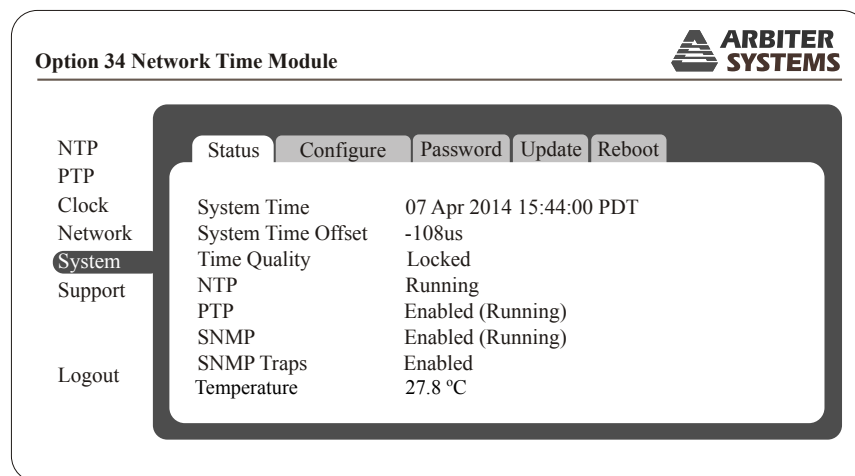

Figure C.31: Startup Page
5. Click the Login button. If you typed in the correct Username and Password, the web interface should appear as shown in Figure C.31.
When logging in to the Option 34 using the web interface, the opening screen should be the System Status information page. This provides an overview of the operation of the Option 34. Figure C.31 illustrates the opening System Status page.